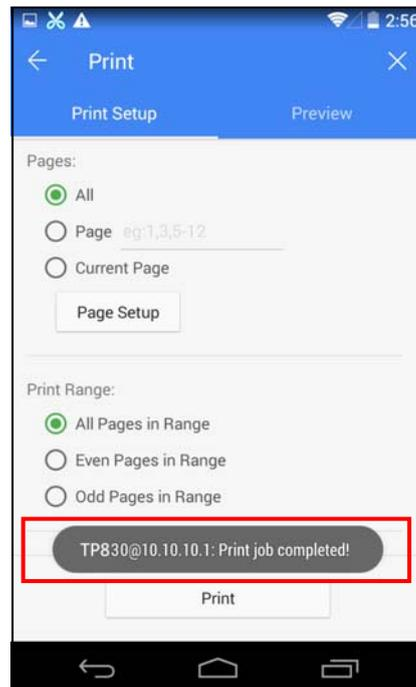

Figure 32
- 4.8 The system sends print data to the printer, when the printer finishes receiving, a prompt “Print job completed!” will be shown, as shown in Figure 32.